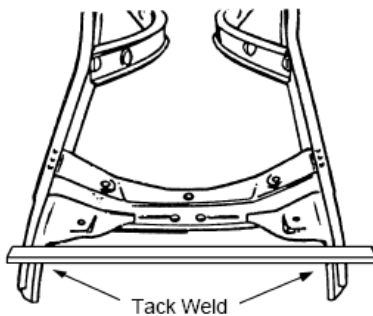

Figure 1- Temporary Brace
2. Remove all the old front suspension components. We would recommend that at this point, you tack weld or clamp a temporary brace across the frame rails in front of the old crossmember as shown in **Figure 1**. This helps to maintain the rail dimension after the old crossmember is removed. Lastly, remove the old crossmember by drilling out the rivets.